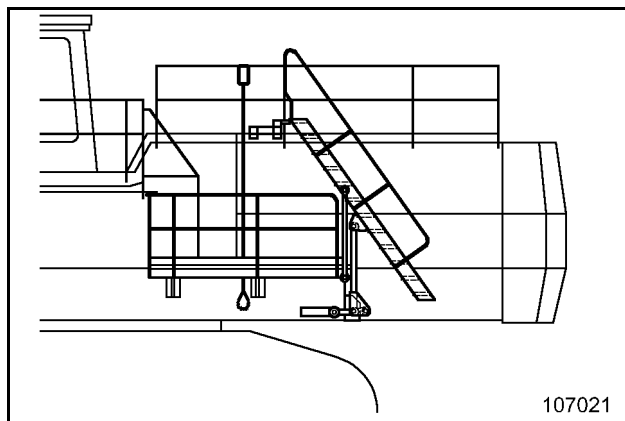

Fig. 2-14:
The swinging ladder is raised (Fig. 2-14:).
**The upper carriage can only be swung when the folding ladder is raised completely (Fig. 2-14:).**